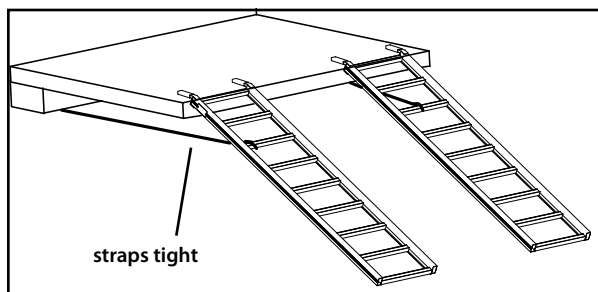

Figure 2
1. On level ground, rest both ramps on tailgate. **SEE FIGURE 2.** Be sure ramps are centered on tailgate and aligned correctly to your 4-wheeled ATV's wheel width.